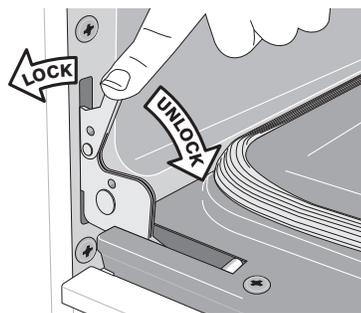

Figure 23: Hinge lock/unlock positions
2. Pull the door hinge locks on both left and right door hinges down from the oven frame completely towards the oven door (See Figure 23). A tool such as a small flat-blade screwdriver may be required.
4. Push the door hinge locks up towards and into the oven frame on both left and right oven door hinges to the locked position; then, close the oven door (See Figure 23).